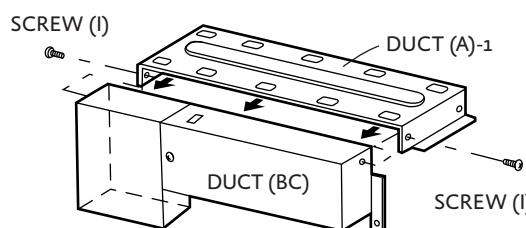

Figure 3
B. Position DUCT (A)-1 on the top of the oven inserting edge of DUCT (BC) assembly into hole lip of DUCT (A)-1. Tighten two SCREWS (I), securing DUCT (A)-1 to DUCT (BC) assembly. See Figure 3.